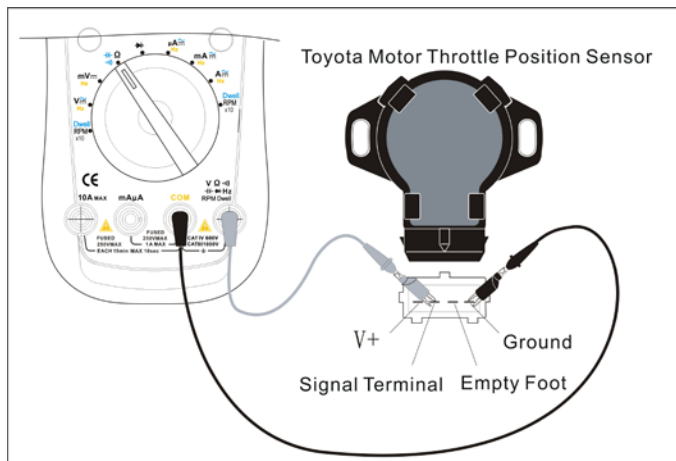

Figure 24
- (1) The same as in the resistance testing method.
- (2) When the general temperature of a heating sensor rises, its resistance will drop. The thermal resistance of the temperature sensor of the automotive engine is generally less than 300 z.
3. Position Sensor (see figure 24)